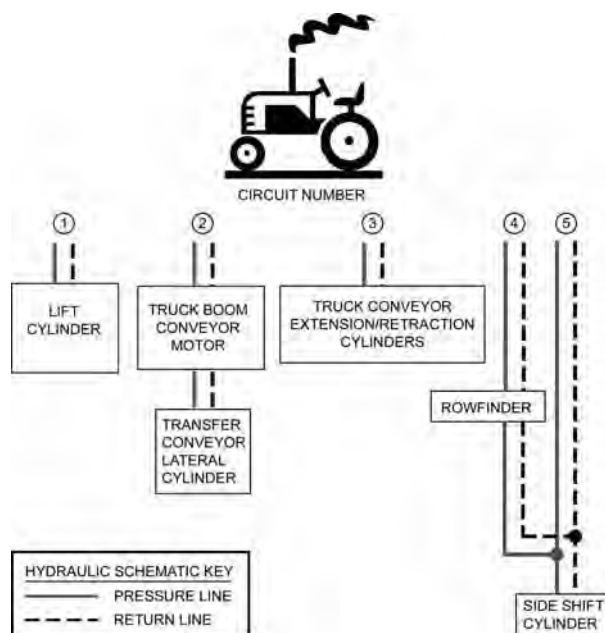

Figure 8 - Harvester/Tractor Hydraulic System
23. The harvester requires five (5) tractor hydraulic circuits to operate. Connect the tractor hydraulics according to the appropriate circuit per Figure 8.